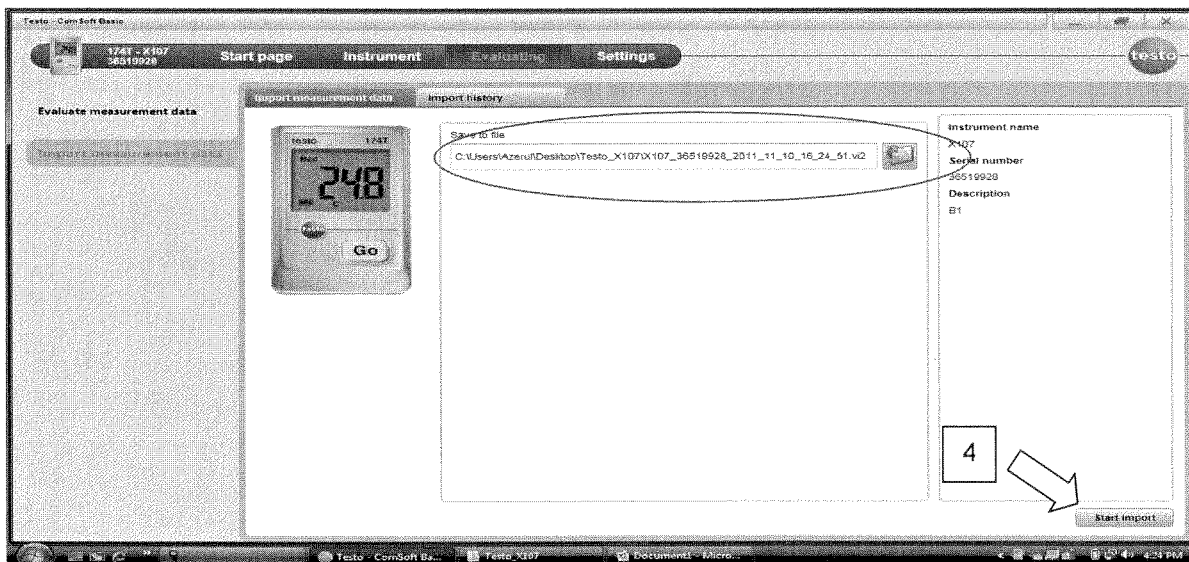

Fig 5.9: Rename save files location (red circle) and Start import (box 4).
Step 6: Rename file and set data save location. Then start import. Refer Fig 5.9